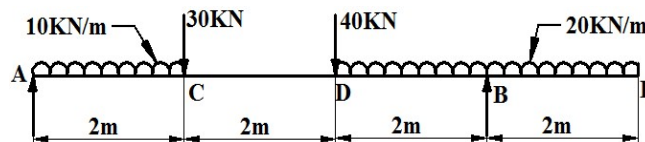

Figure 25
15. For the beams shown in *Figure 25*, draw shear force and bending moment diagram. Locate point of contra flexure if any